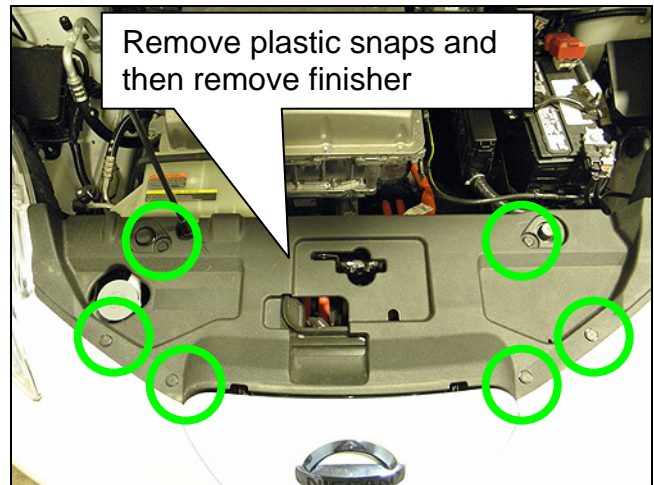

Figure 1
- b. Remove finisher shown in Figure 1